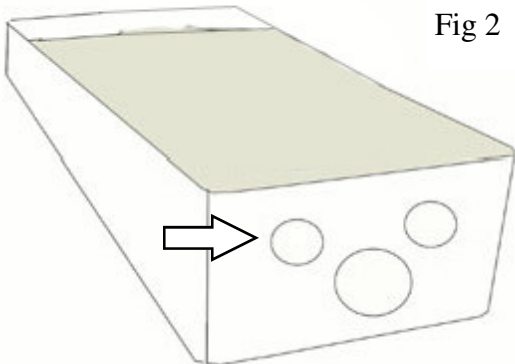

Fig 2
4. There are three separate knockouts on the bottom of the control box. Find a water-tight connector at your local hardware store that will fit one of the knockout as well as fit all of your wires through it. Remove the necessary knockout in the bottom of the box and affix a water-tight connection (fig 2).